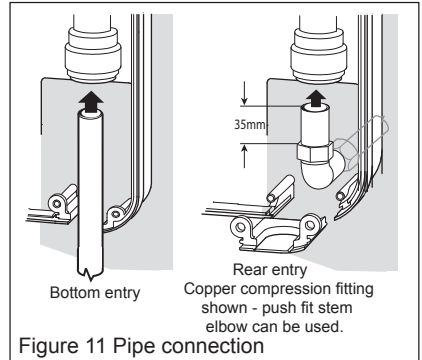

Figure 11 Pipe connection
- 5.8 The hand wash has been designed for a 15mm water pipe using the pushfit connection - see Fig. 11 on page 12.
- 5.16 Connect the cold water supply pipe to the inlet of the hand wash, this is a push fit - see Figure 11.